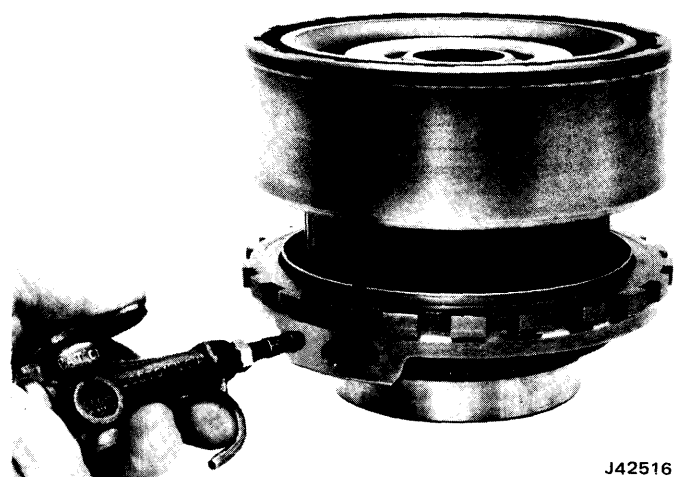

Fig. 7-92 Checking Direct Clutch Operation
(14) Install direct clutch assembly on center support assembly and apply compressed air to check direct clutch operation (fig. 7-92).